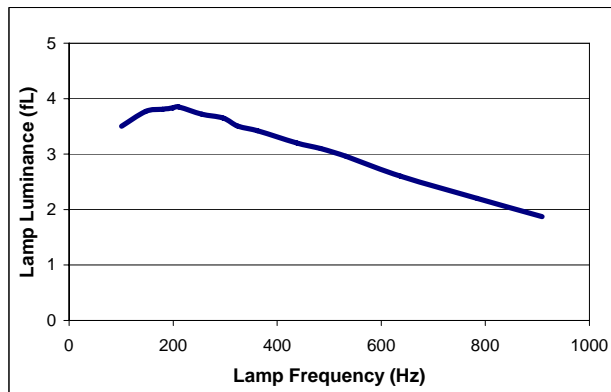

Figure 2: Luminance vs. Lamp Frequency
The selection of the CLF value can also affect the brightness of the EL lamp because of its control of the lamp frequency (LF). Although input voltage and lamp size can change EL lamp frequency as well, LF mainly depends on the CLF value selected or the frequency of the input clock signal to CLF. Figure 2 shows typical brightness of a D371A IC circuit with respect to lamp frequency. In this example, the inductor and CHF values were kept constant while varying LF.